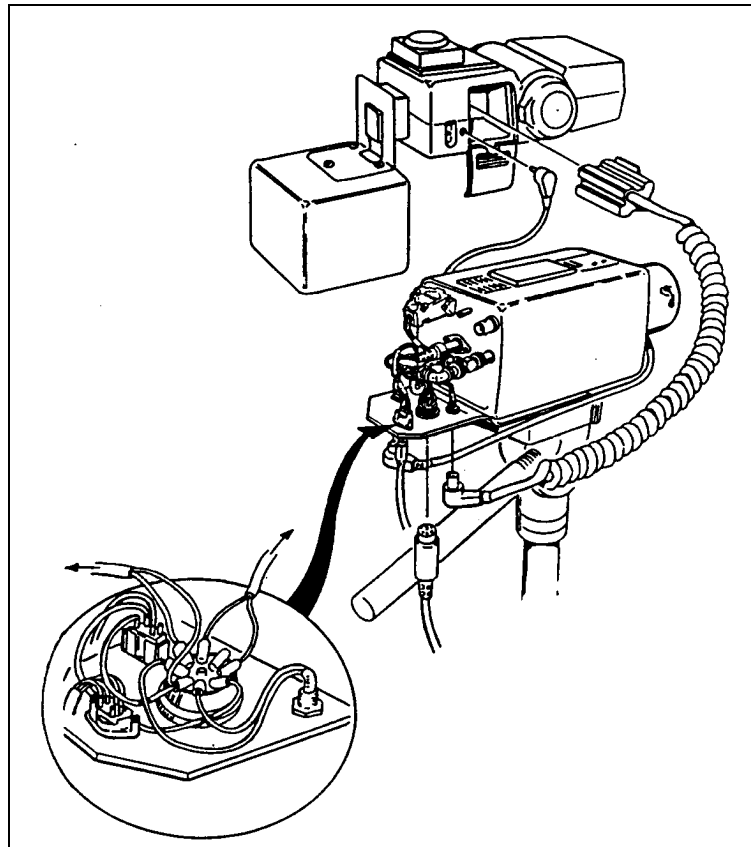

Figure 7-1. Camera Wiring
2. Remove the connector cover (with the strobe attached) from the camera and disconnect the cables from the camera (Figure 7-1).